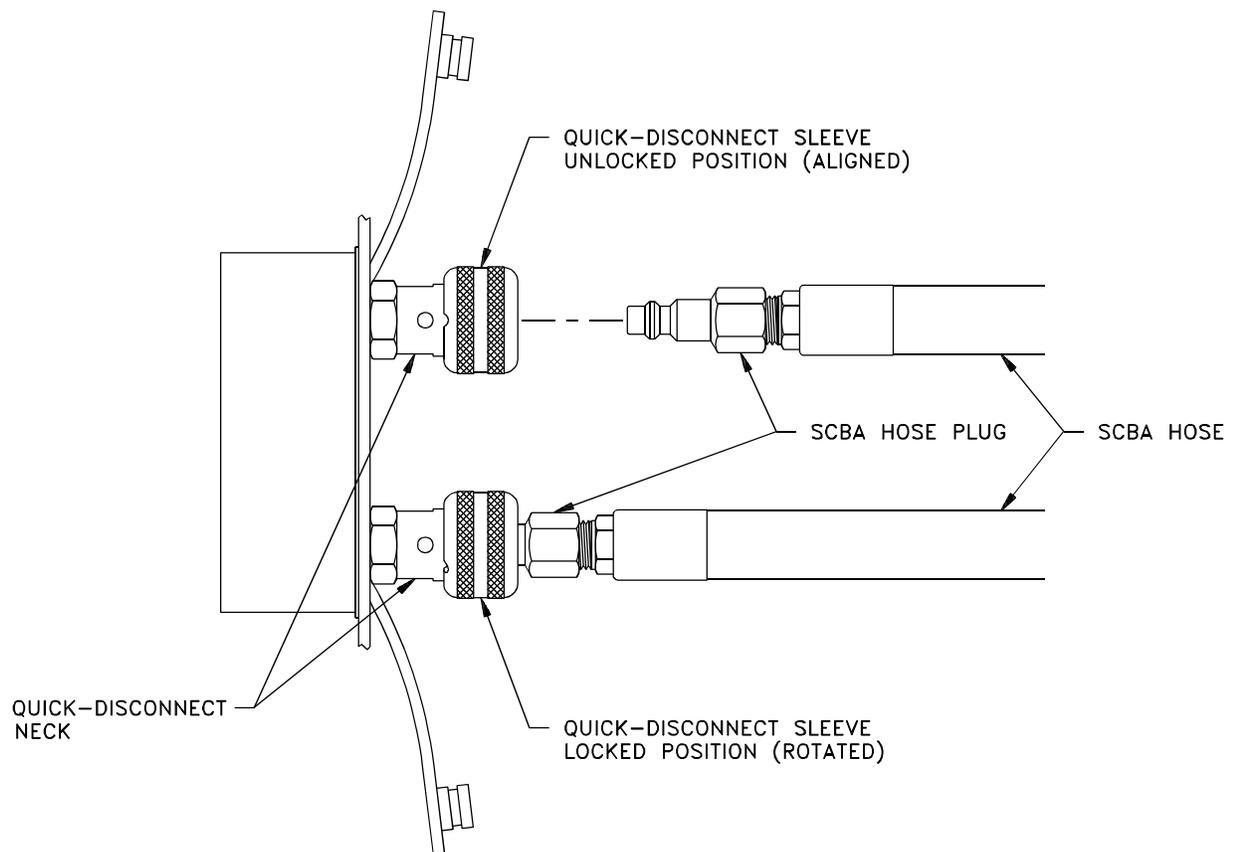

Figure 2-6. Connecting SCBA Hose to PASP Quick Disconnects (QDs)
2. Connect the LP air-supply hose(s) to PASP QD(s) (see Figure 2-6). Up to four SCBA users may be connected (no more than four LP air hoses shall be interconnected).	<div style="text-align: center; border: 1px solid black; padding: 5px; width: fit-content; margin: 0 auto;">CAUTION</div> <p style="text-align: center;">Failure to rotate sleeve on PASP QD after connection is made may result in separation of couplings during use.</p> a. Remove protective dust cap from QD(s) on PASP manifold. b. Connect hose end fitting to PASP QD(s). <ol style="list-style-type: none"> (1) Align recess on female PASP QD sleeve with dimple on QD neck. Slide sleeve toward panel. (2) Insert male plug on SCBA hose into female, PASP QD and release sleeve on QD. (3) Rotate QD sleeve so that recess and dimple are no longer aligned. Gently pull on two sections of couplings to test connection.